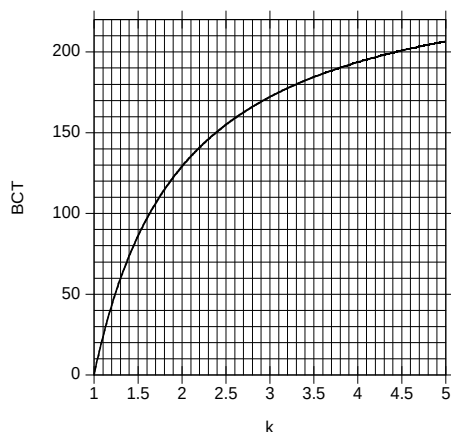

Figure 29: Relationship Between the k Ratio and the Optimal BCT to Recover Linearity
Figure 29 on page 32 plots Equation (9).